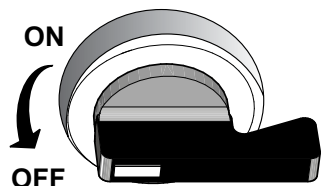

Figure 17. Brake Knob (Off Position)
- With the engine running, place the parking brake knob (Figure 17) in the **OFF** position.